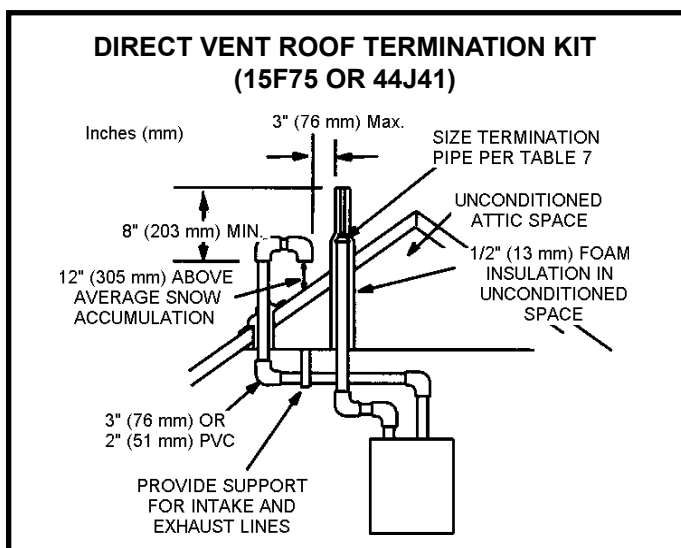

Figure 32
Intake and exhaust pipes may be routed either horizontally through an outside wall or vertically through the roof. In attic or closet installations, vertical termination through the roof is preferred. Figures 32 through 47 show typical terminations.
3. On roof terminations, the intake piping should terminate straight down using two 90° elbows (See Figure 32).